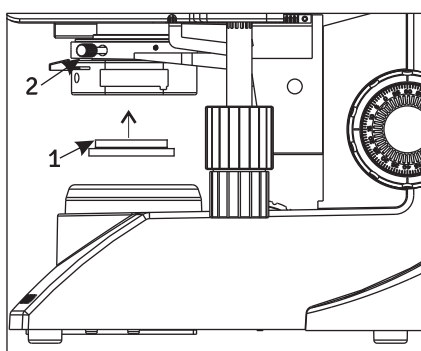

Fig. 10
6. Replace the blue filter with D lens. Refer figure 10.